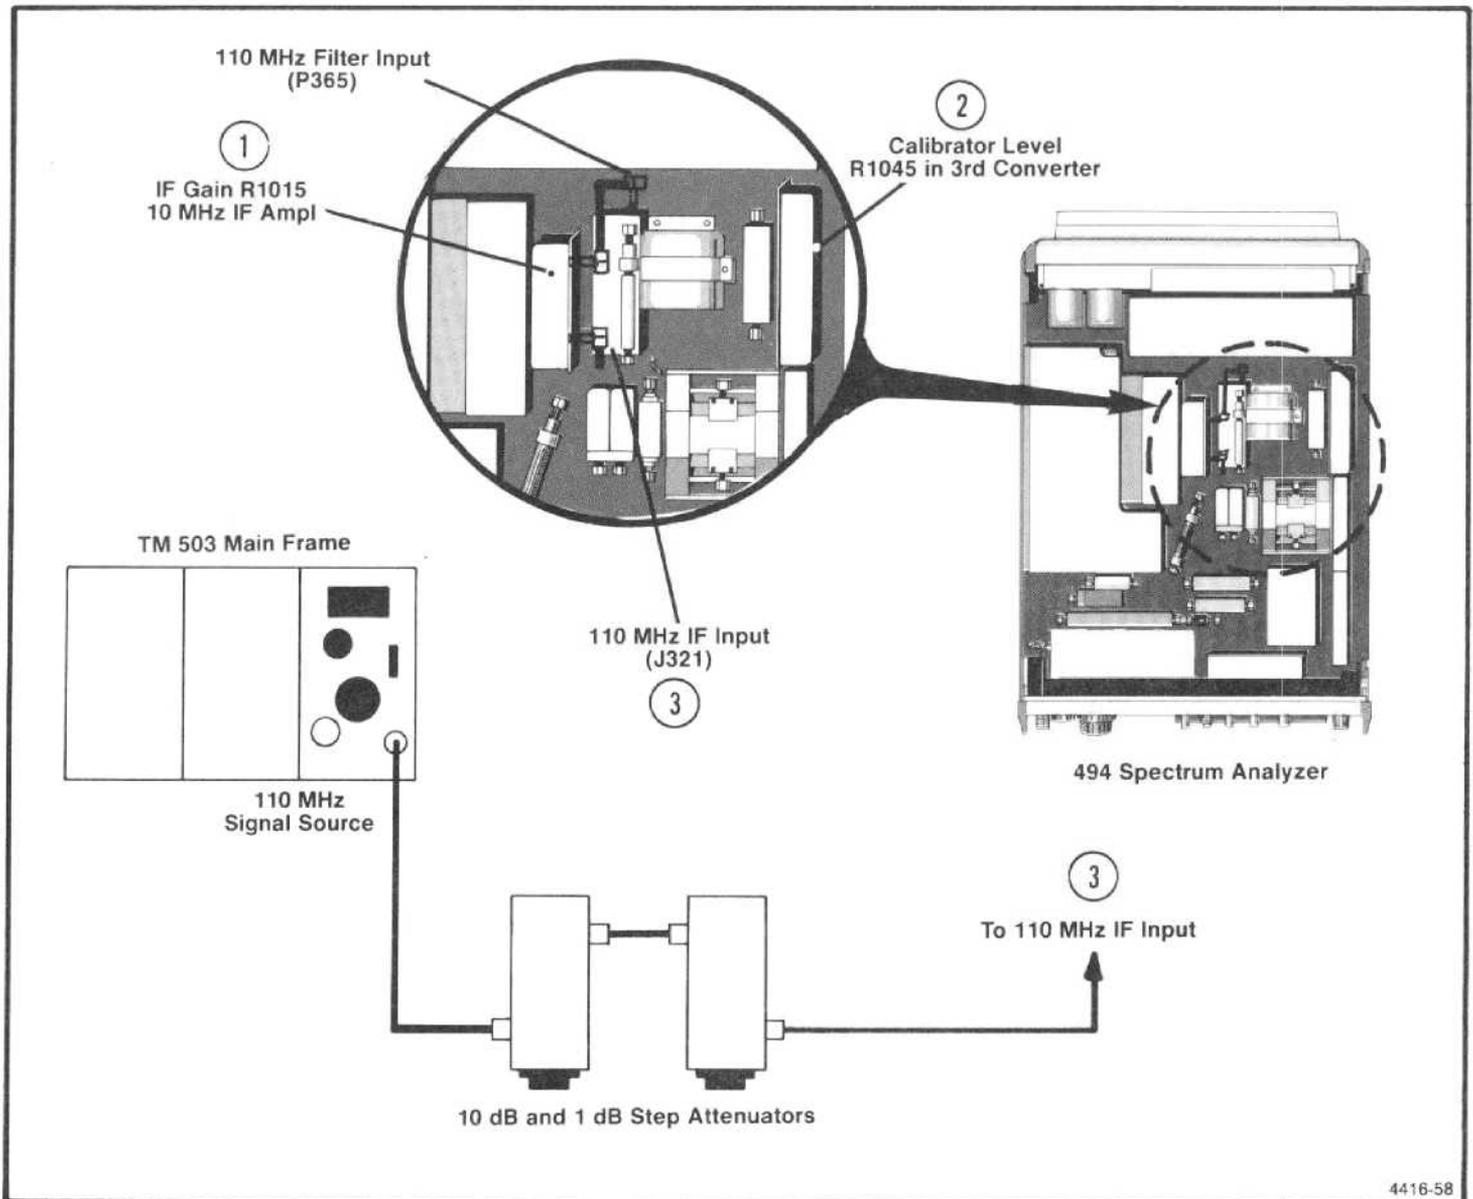

Figure 5-23. Test equipment setup for adjusting the IF gain and the location of adjustments and connectors.
The calibrator output level is calibrated to a known reference. The procedure for checking the level is described in the Performance Check section. Output level is adjusted with Cal Level R1041, in the 3rd converter (#2 in Figure 5-23).
- a. Test equipment setup is shown in Figure 5-23. Set the RESOLUTION BANDWIDTH to 100 kHz, REF LEVEL to -20 dBm, and apply a -21.5 dBm, 110 MHz signal, through step attenuators, to the input (J365) of the 110 MHz filter.
- d. Set the step attenuators for 21 dB attenuation and apply the 110 MHz signal to the input (J321) of the 110 MHz IF amplifier (Figure 5-23).